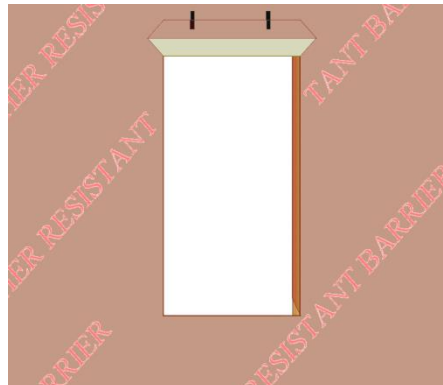

Fig. 4
- G. From the exterior, cut the top of the WRB as shown to form a flap. (Fig. 4).
- H. Temporarily tape this top flap up. (Fig. 4)